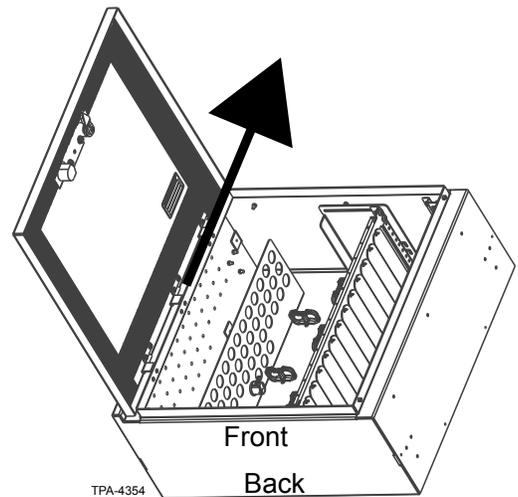

Figure 2
Step 2: Lift door off the cabinet (Figure 2).